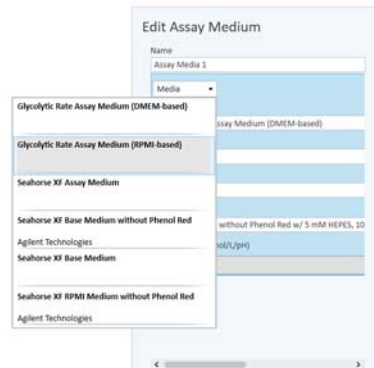

Figure 60 Assay medium media menu
- 4 To select the assay medium, use the **Media** catalog drop-down menu. (See Figure 60.)